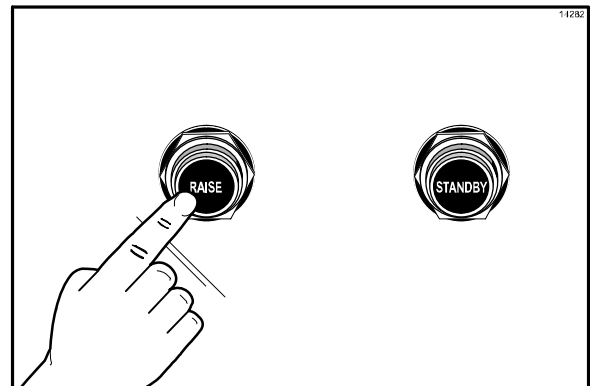

Figure 70
1. Raise the upper platen to the OPEN position by pressing the red RAISE key. (See Figure 70.)